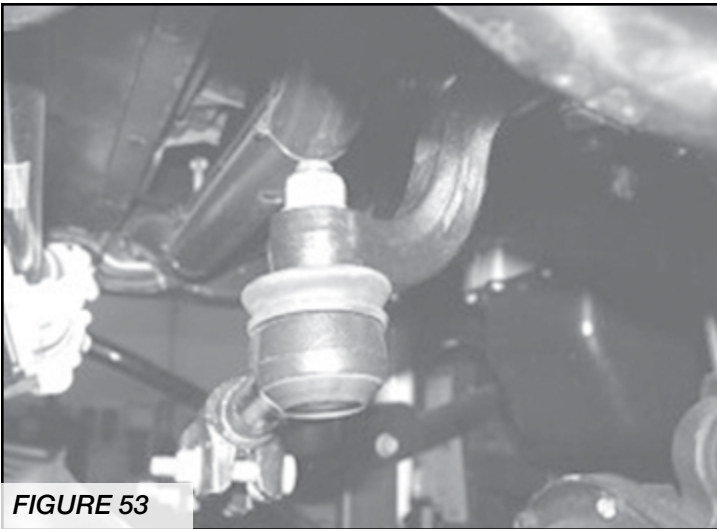

FIGURE 53
29. Reconnect the inner tie rod end using factory hardware to the new dropped pitman arm. Torque to 60 ft lbs. **SEE FIGURE 53.**